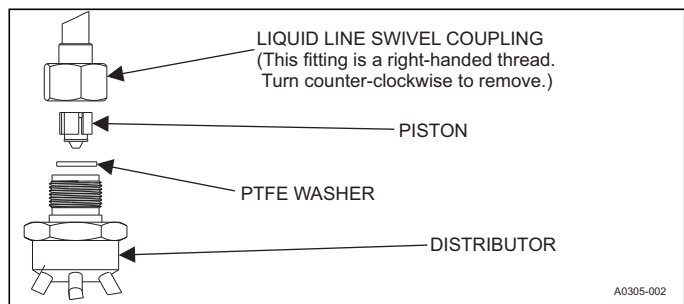

Figure 7: Piston installation
7. Verify that the PTFE washer is still in place in the distributor opening. See Figure 7.